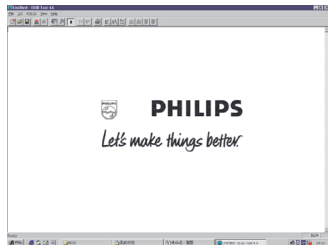
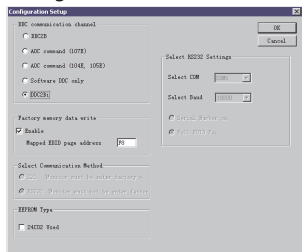

Fig. 24
Fig. 25
1. Click icon as shown in Fig. 24 from the tool bar to bring up the Channels "Configuration Setup" windows as shown in Fig. 25.
As shown in Fig. 25.
And give a file name as shown in Fig. 24.